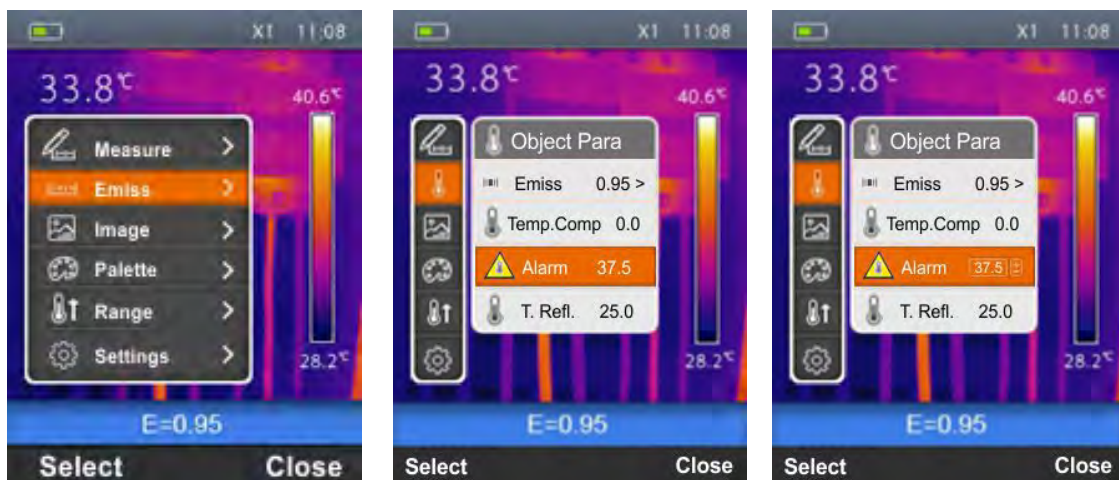
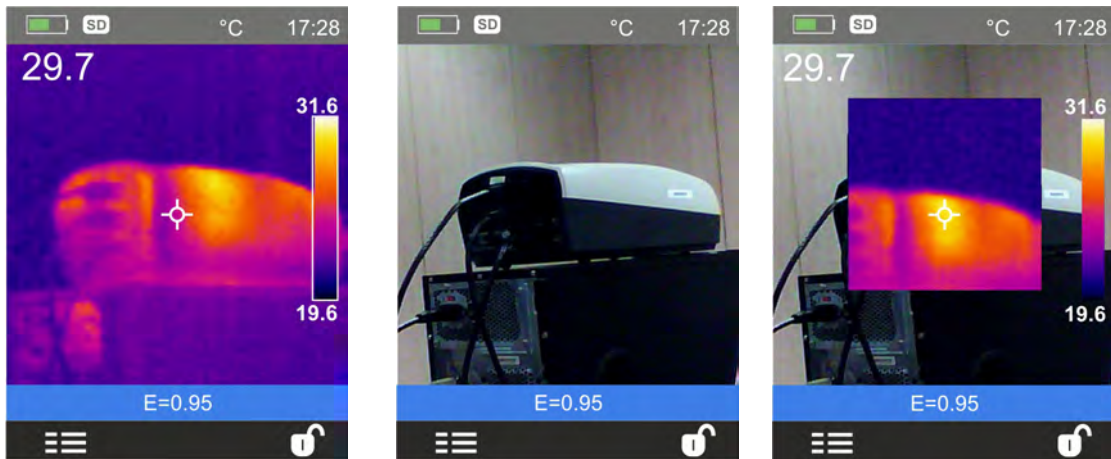

Fig. 20: Setting temperature compensation on the instrument
Fig. 23: Image display modes
1. Select the item “Emiss” with the keys \oplus or \ominus and press the key . The screen Fig. 20 – Central part is shown on the display.
2. Use the keys \oplus or \ominus to select the item “Alarm” and press the key “Select”. The screen Fig. 20 – Right side is shown on the display
2. Use the keys \oplus or \ominus to select the desired display mode among the options: **IR** (infrared image), **Visual** (visual image), **MIX** (fusion of IR image into the visual one) (see Fig. 23) and **AUF** (Auto Fusion function – see § 5.2.4.1) (see Fig. 20)